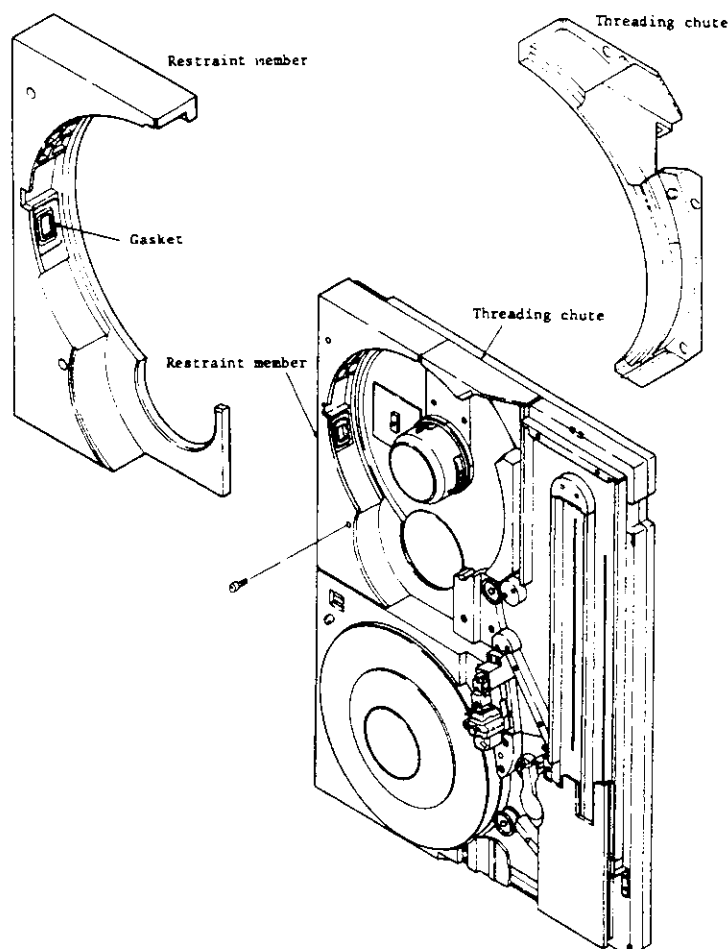

Figure L.14 Threading chute and restraint member
- (1) Unscrew three threading chute mounting screws and remove the threading chute shown in Figure L.14.
- (2) Unscrew four restraint member mounting screws and remove the restraint member.